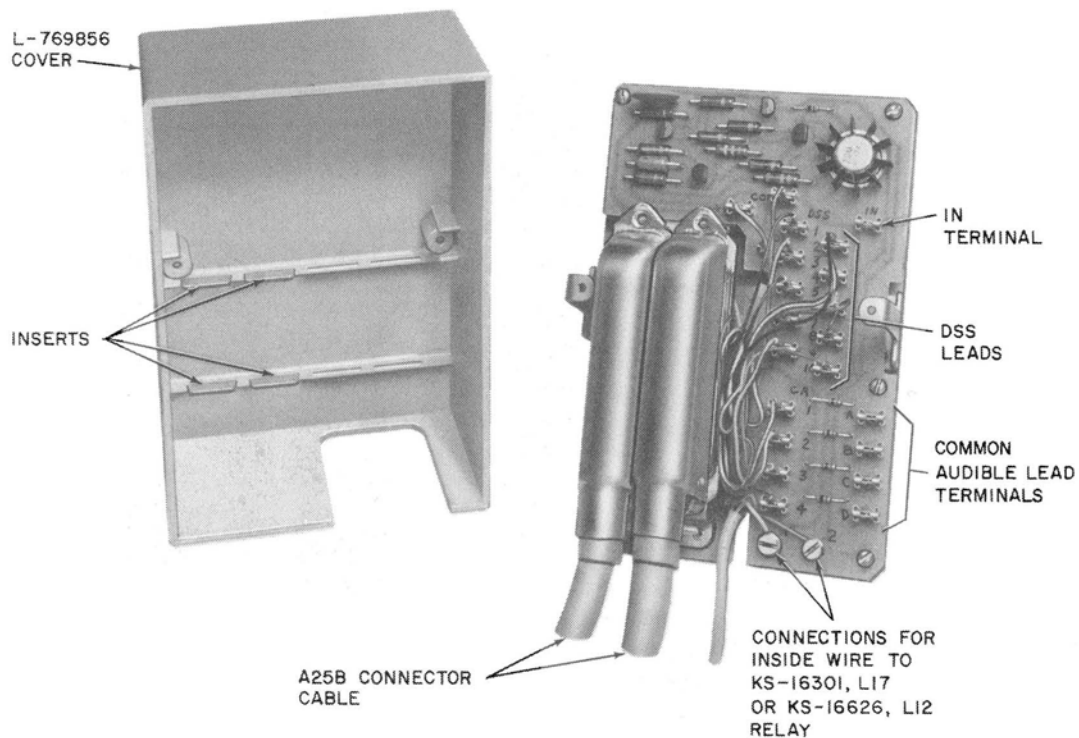

Fig. 16—25A Apparatus Unit
- (1) Remove the cover and mount the base pan assembly (Fig. 16 and 17) at the desired location (use appropriate fastener per BSP 080-720-105).
- (2) Mount the KS-16626 L12 relay set per BSP 463-120-100 or the KS-16301 L17 relay per BSP 463-110-100.
- (b) Connect the 25A apparatus unit (Fig. 16) as follows:
- (1) Connect the auxiliary signal and power supply to KS-16626 L12 relay set and/or KS-16301 L17 relay set per BSP 463-120-100 or BSP 463-110-100, respectively.
- (4) Insert system cable or cables (Fig. 16).
- (5) Position inserts (Fig. 16) inside cover to hold cables securely when cover is replaced.
- (6) Replace cover.